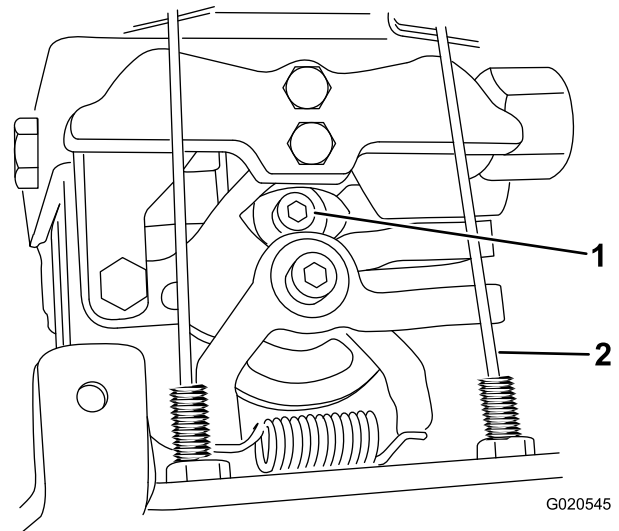

Figure 26
6. Loosen the lock down screw (Figure 26) until the return arm can be rotated.